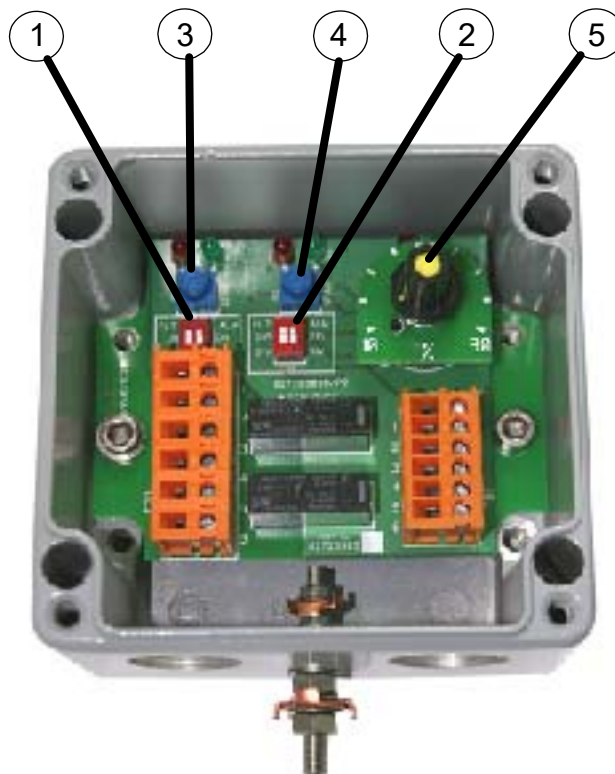

Figure 18. Flow alarm relay box components
During the calibration procedure it is possible to disable the operation of the "low flow" alarm and "flow fault" relays to avoid false alarms within the customers' control system. The Fault/Alarm relay enable/disable switch (Figure 18, item 1) is located in the Flow Alarm Relay Box. Set BOTH switches to the OFF position to avoid false alarms during this setup procedure. Once the calibration or testing is complete both switches should be set back to the ON position.
6. Locate the ZERO flow potentiometer (Figure 18, item 3) and, using a suitable tool, slowly turn until the RED LED comes ON. Then turn in the opposite direction until the GREEN LED just comes on.
3. Locate the SPAN/NORMAL flow potentiometer (Figure 18, item 4) and, using a suitable tool, slowly turn until the RED LED comes ON. Then turn in the opposite direction until the GREEN LED just comes on.
Set the Rotary Switch (Figure 18, item 5) to the value at which the Flow Alarm is to indicate low flow. e.g. 50% is at the 12 o'clock position.
Set both Fault/Alarm relay Enable/Disable switch (Figure 18, item 1) to the ON position. The Flow Alarm is now operational.
2. Locate the Fault/Alarm relay Enable/Disable switch (Figure 18, item 1) and set BOTH switches to the OFF position to avoid false alarms during this test procedure.
3. Slowly close the aspirator isolation valve. The Flow Alarm LED, (above Figure 18 Item 5) will show RED when the flow falls below the threshold value set by the Rotary Switch.